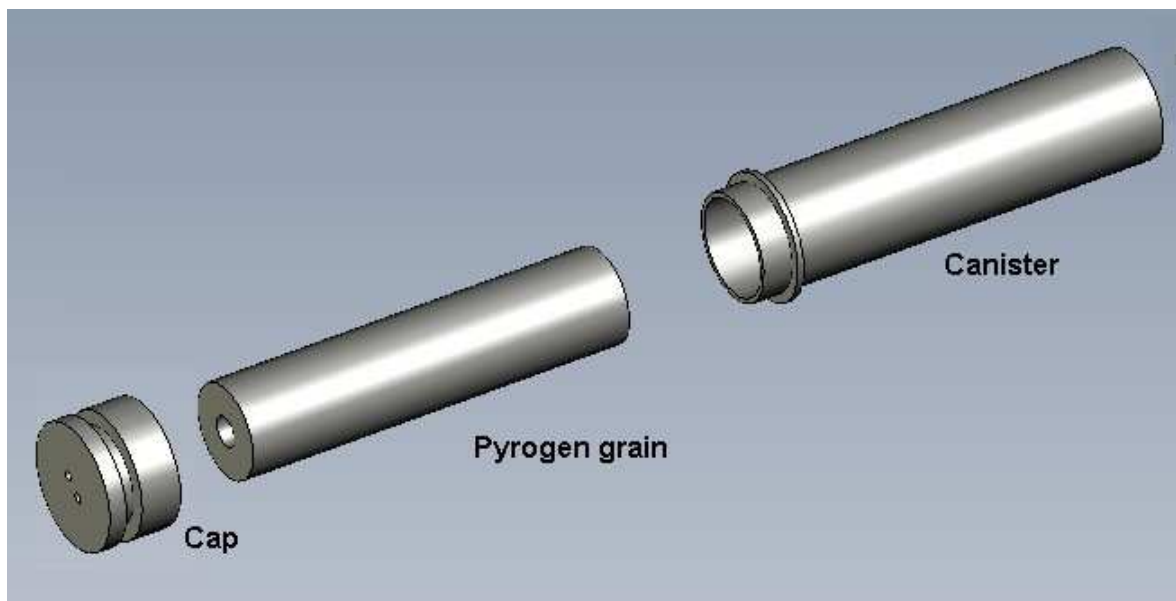

Figure 3 –Pyrogen unit – exploded view
1. Slip the igniter (P15) electrical leads through the two small holes in the pyrogen cap (see Fig.3), leaving approximately 2 inches of length to the igniter head.